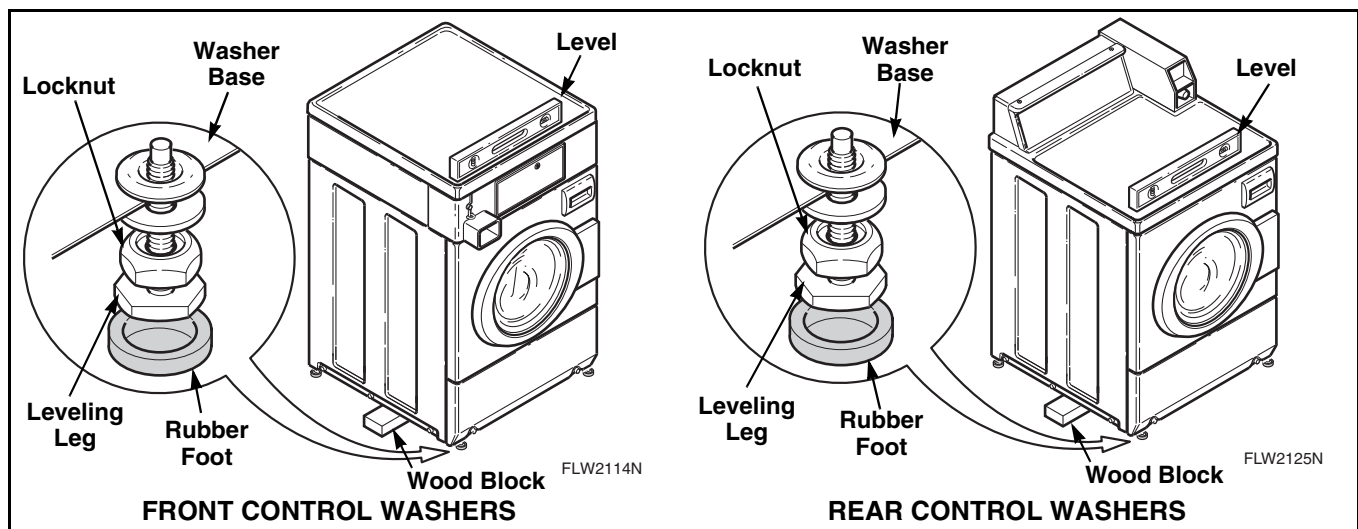

Figure 12
- Place level on washer, refer to *Figure 12*, and check if washer is level from side to side and front to back.
NOTE: Level must rest on raised portion of top panel. Refer to *Figure 12*.
- If washer is not level, tilt washer to access front and rear leveling legs. For easier access to leveling legs, prop up washer with wooden block. Refer to *Figure 12*.
- Loosen locknuts and adjust the leveling legs until the washer is level from side to side and front to back (using a level). **Make sure washer does not rock.** Refer to *Figure 12*.
- Place rubber feet on all four leveling legs. Refer to *Figure 12*.
- i. Loosen one front leveling leg locknut. Refer to *Figure 12*.